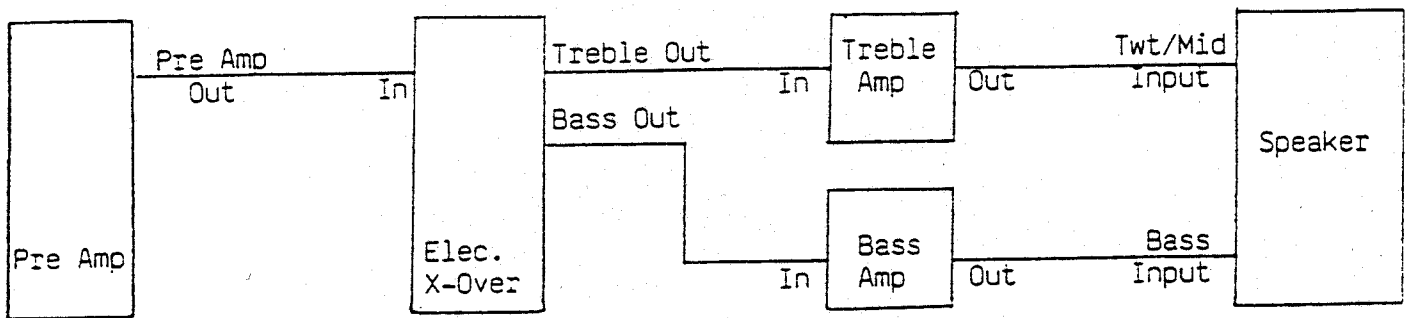

Figure 5
2. Connect the bass and mid/treble amplifiers directly to the speakers as shown in Figure 5. Do not use the MG3.5 external crossover box.